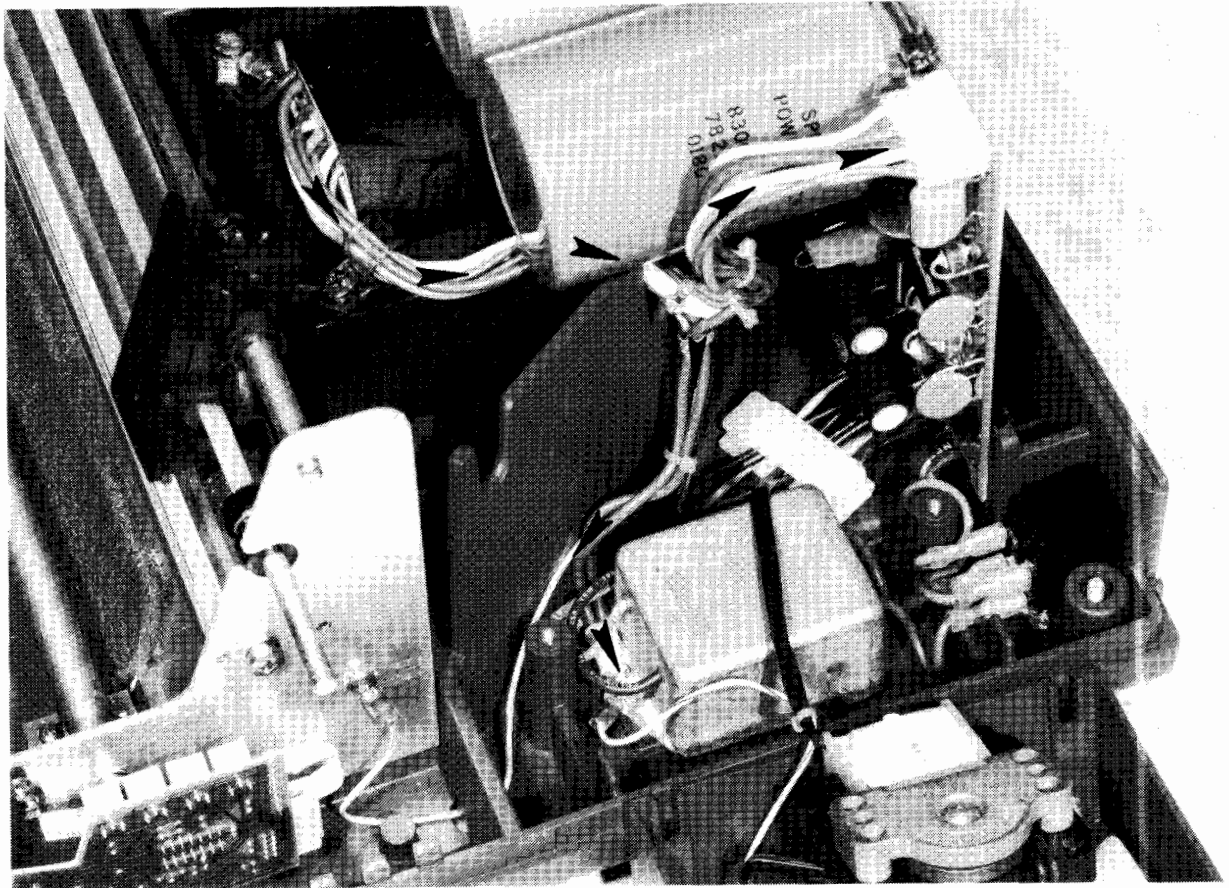

Figure 4-7. Transformer Cable Routing (for 2631G)
- d. Route the transformer wires as shown in Figures 4-7 and 4-8.